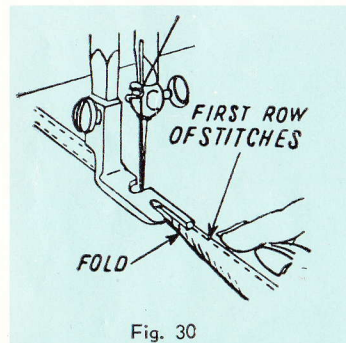

Fig. 30
4. Fold over the edges to the left and insert them into the scroll of the hemmer foot. Sew as you would do ordinary hemming. Use left edge of long toe of hemmer foot as guide, having original seam run alongside of it (Fig. 30).